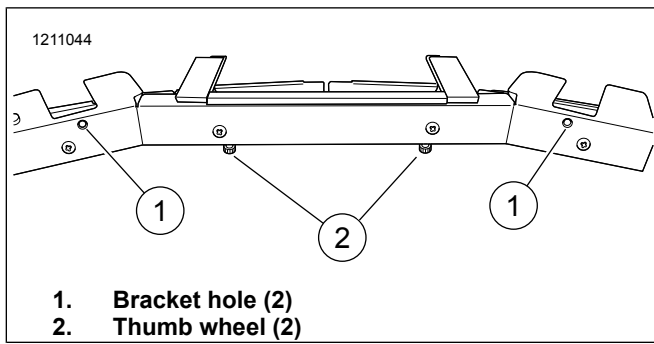

Figure 4. Bracket Mounting Holes
3. See Figure 4. Place light on a working area with thumb wheels (2) down and bracket holes (1) up.
12. See Figure 4. Tighten mounting bracket screw (2) to secure light to windshield.